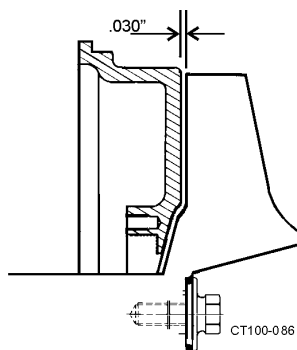
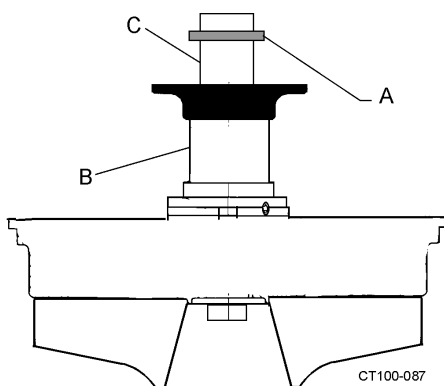

Figure 43 - Clearance Between Impeller and Backplate
Figure 44 - Locations of Shims
22. Check the impeller/backplate clearance with the backplate held firmly in position against the motor adapter. Check the space between the back of the impeller and the backplate with a feeler gauge (0.030" nominal) while holding the backplate tight against the bearing housing flange. Any axial movement of the shaft should not be added to the 0.030" nominal clearance (Figure 43). If needed, change this clearance by adding or removing shims. Shims (Figure 44, item A) are added on the drive shaft (Figure 44, item C) behind the impeller shaft (Figure 44, item B).